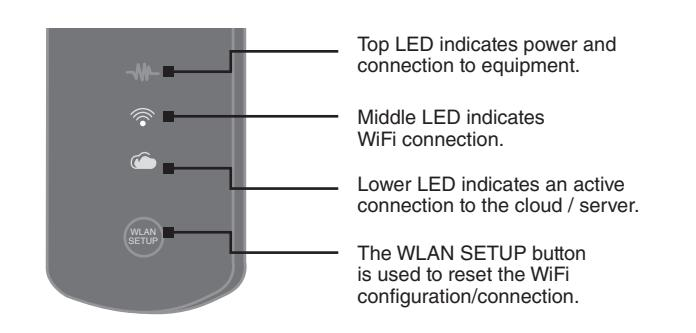

Fig. 10
- After the WiFi Module is installed and the water heater is powered, all three LEDs should blink simultaneously, indicating that the module is ready to be configured for use on the home network. (To repeat the setup process or change the internet connection settings at any time, simply press the WLAN SETUP button on the WiFi Module.) (Fig. 10)